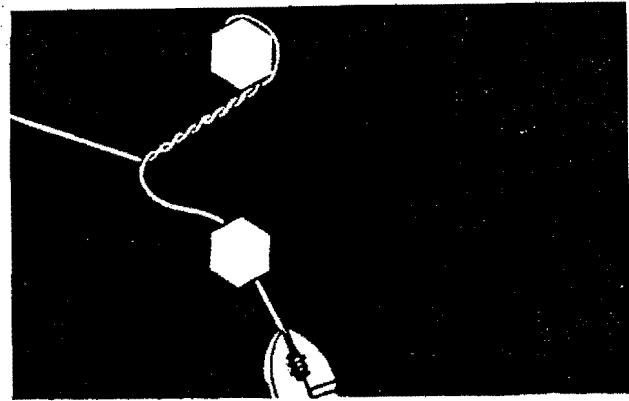

Figure 7-6. Pulling Braid Taut
e. After making sure that the braid is not too long that it cannot be pulled taut between the bolts, insert the end of the wire which is on top through the hole between the nine and the twelve o'clock positions on the second bolt head. Grasp the end of this wire with the pliers and pull braid taut [Figure 7-6].